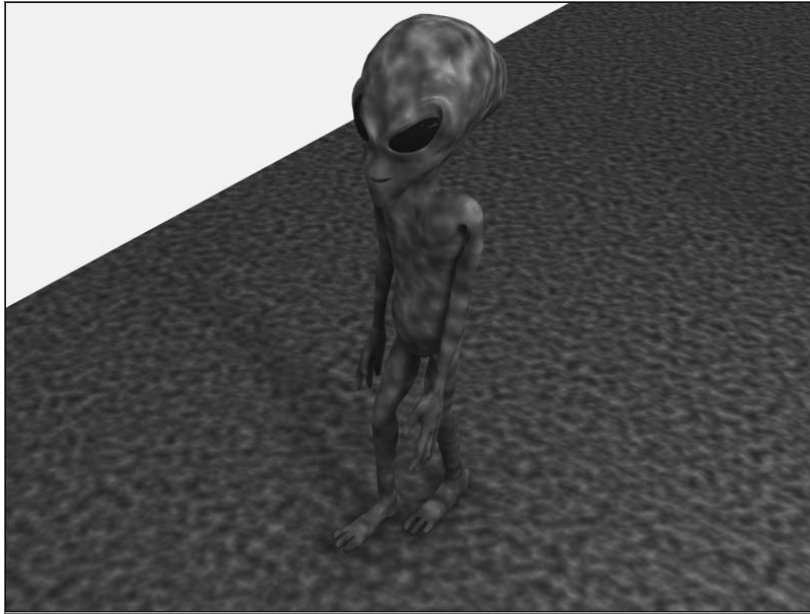

Figure 9.17
7. Click the Play Animation button. Your alien will walk through the scene; it should be similar to the rendered alien shown in Figure 9.17.